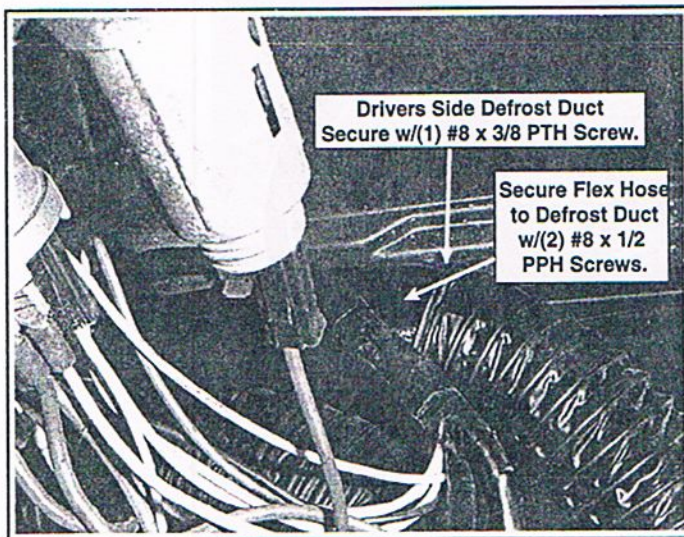

FIGURE 7
16. Install defrost ducts, secure with hardware provided. (FIGURE 7 & 8)